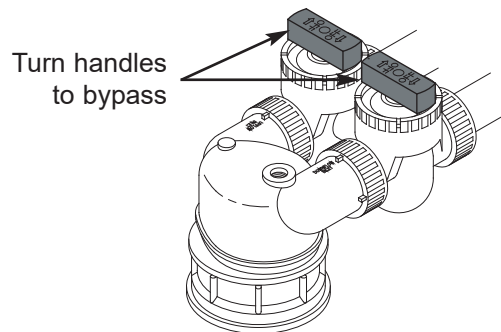

FIG. 7
1. Bypass the system by turning both bypass handles perpendicular to the flow of water (See Fig. 7).